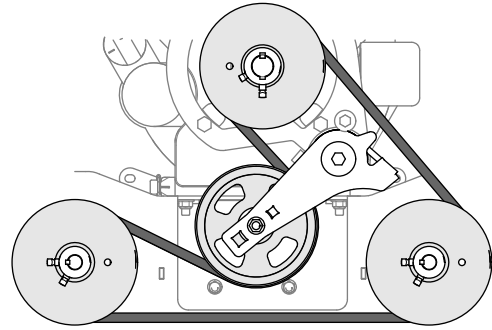

Figure 92
4. Route the new belt around the pulleys as shown in Figure 92.